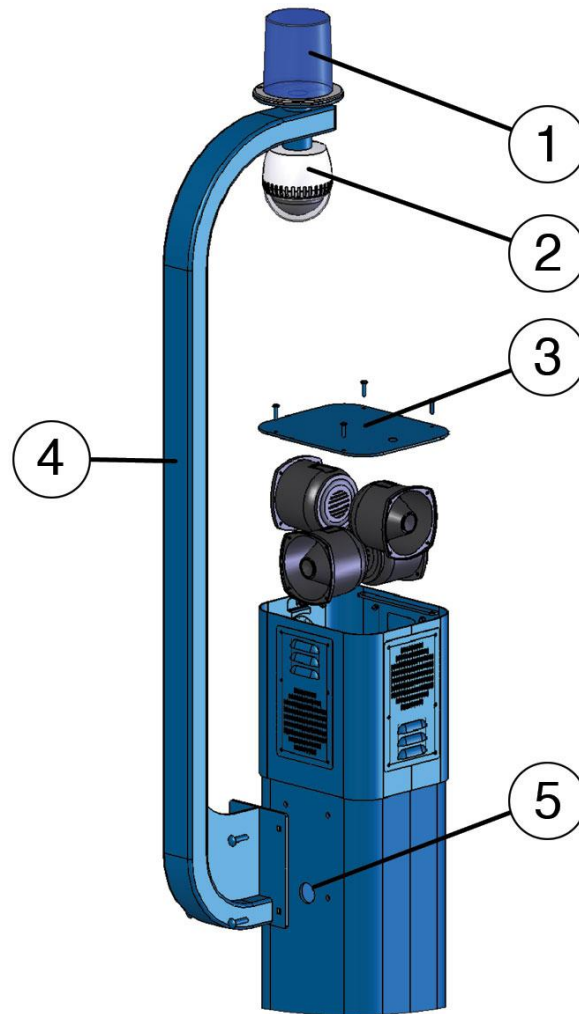

Figure 1. Installing the WEBS® Tower Arm: (1) Strobe Light, (2) CCTV Camera, (3) Cap, (4) Tower Arm, (5) Cable Opening.
(A) Replacing the Tower Arm (figure 1)
- 3) Remove the cap plate of the ETP-MT/R OP 4 tower top by unfastening three 10-24 x 3/4" pan head tamperproof screws and keep them safely aside (See Figure 1).